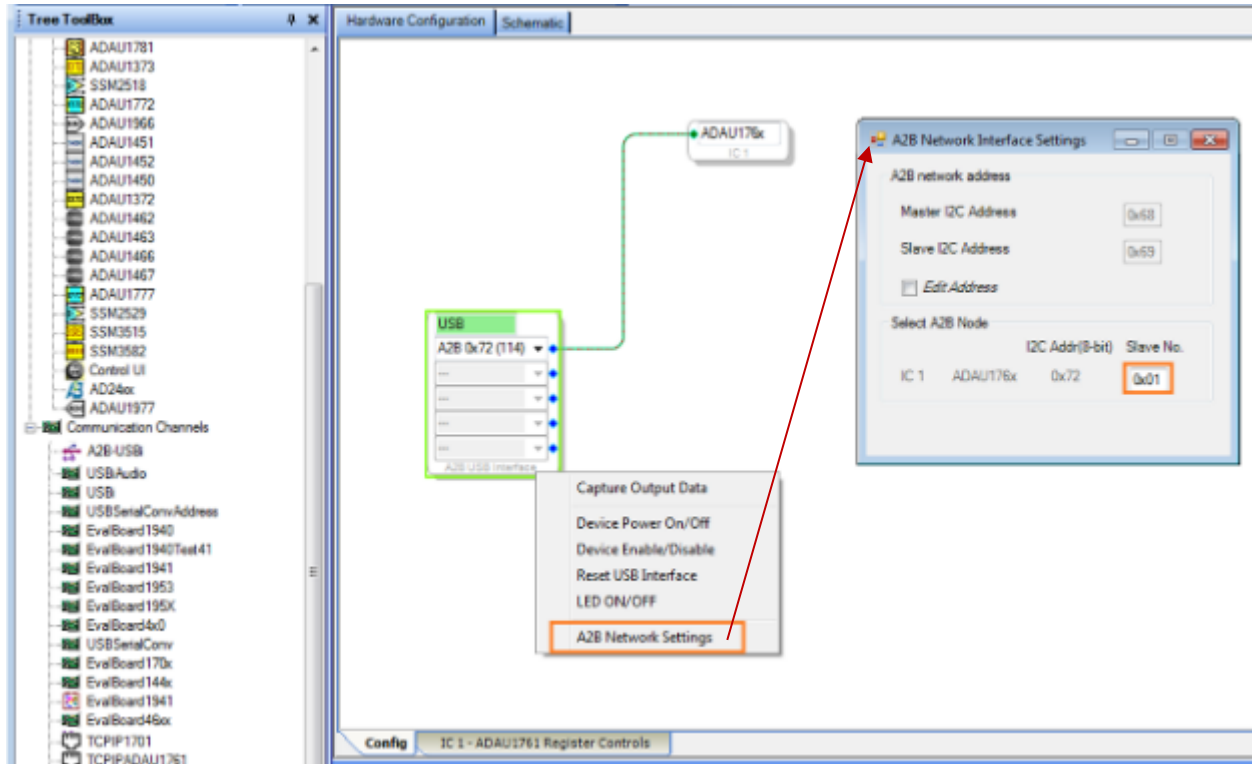

Figure 65: A2B Network Interface Settings
7. Right-click on the 'A2B-USBi' channel and select 'A2B Network Settings'. This will open a window as shown in Figure 65.